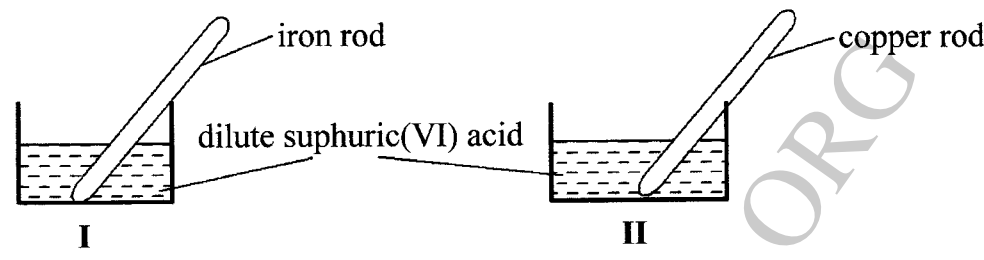

Figure 2
3. (a) A student used **Figure 2** to investigate the action of dilute sulphuric(VI) acid on some metals. Beaker I and II contained equal volumes of dilute sulphuric(VI) acid. To beaker I, a clean iron rod was dipped and to beaker II, a clean copper rod was dipped.